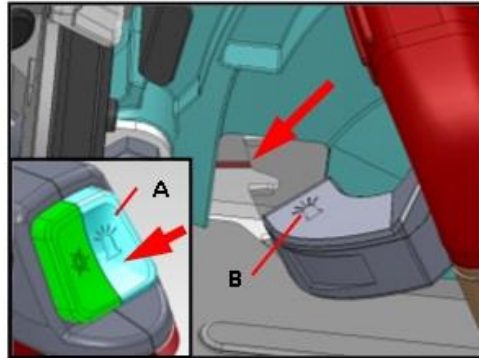

Fig.14
The LED light is used to illuminate the cutting area when working in low light conditions. Turn the LED light on by pressing the right switch (A) on the saw handle. Press the switch again to turn off the LED light. **Fig. 14.**